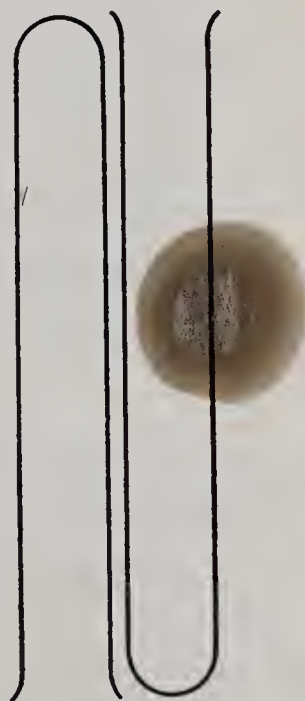

Fig. 32. Determining whether hydrogen is more or less dense than air.
3. Lift the two remaining test-tubes from the table, quickly invert one of them, and hold the two tubes in the position shown in Fig. 32 for at least half a minute. At the end of this time bring a blazing splint to the mouth of each test-tube.